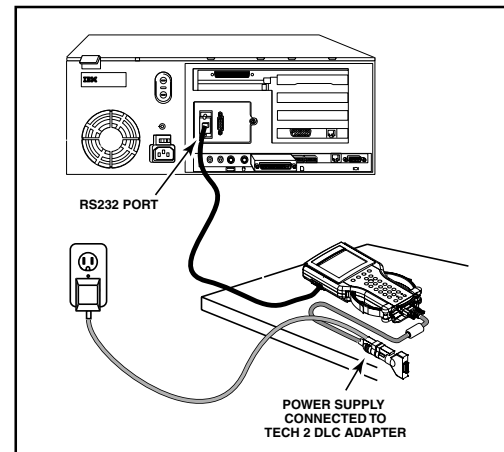

Figure I-33, Tech 2 to Computer Connection
7. Connect the Tech 2 to the PC (Figure I-33). Power up the Tech 2.